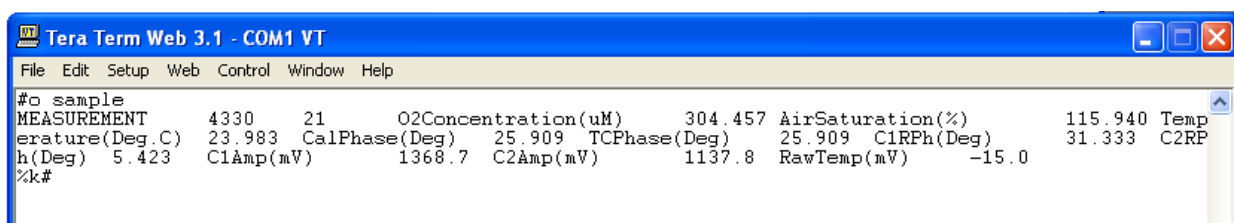

Figure 5-9 Function test of the Oxygen Optode 4330.
2. Wake up the sensor by typing any character. The sensor outputs a '#' when waken up, refer last line in Figure 5-9.
3. type: *do sample*. The sensor presents its output for a function test, refer Figure 5-9.